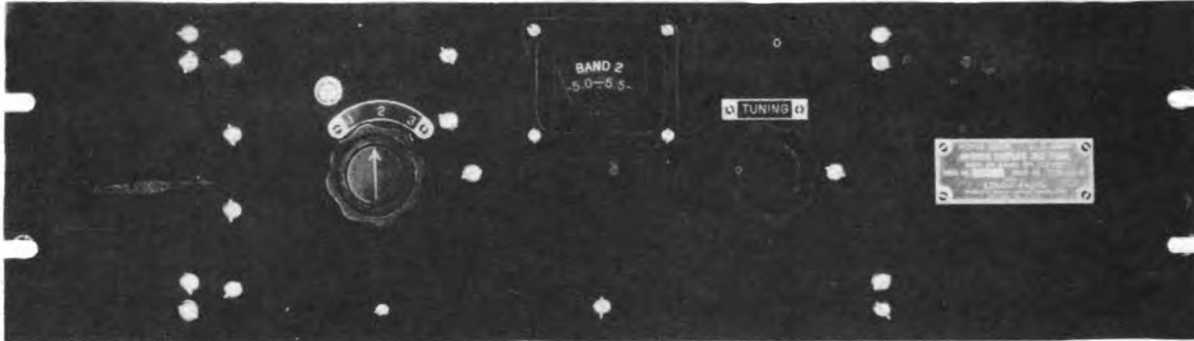

Figure 8—Antenna Coupling Panel, Front View
(1) One antenna coupling panel, figure 8, containing resonating circuits and plugs. This unit, which is continuously tunable in three overlapping bands over a range of 2 to 12 megacycles, provides a means of